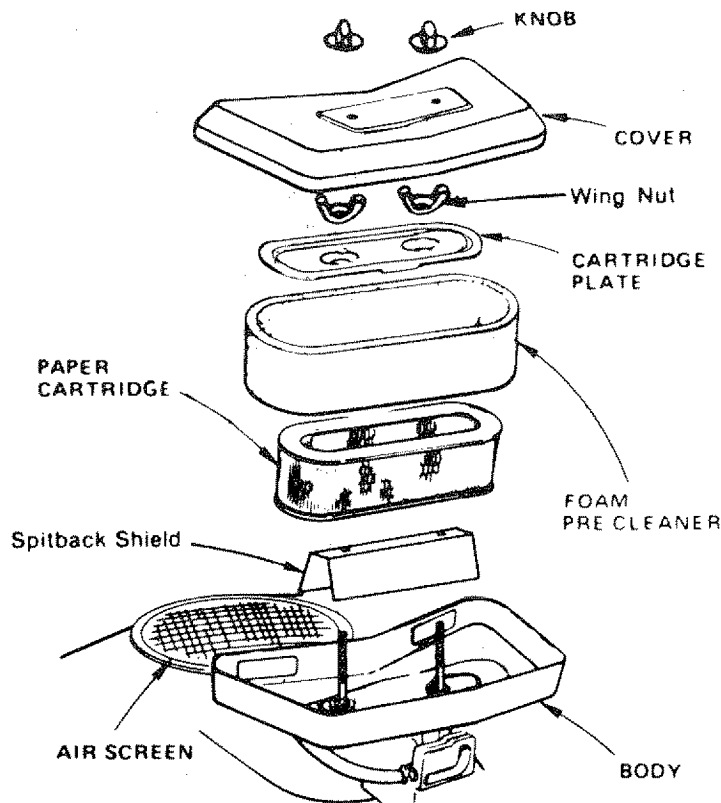

FIGURE 25
4. CLEAN AIR CLEANER ELEMENT (FIG. 25)